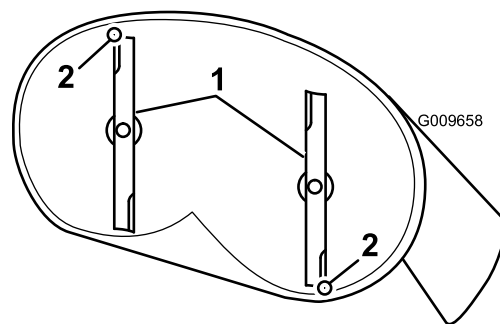
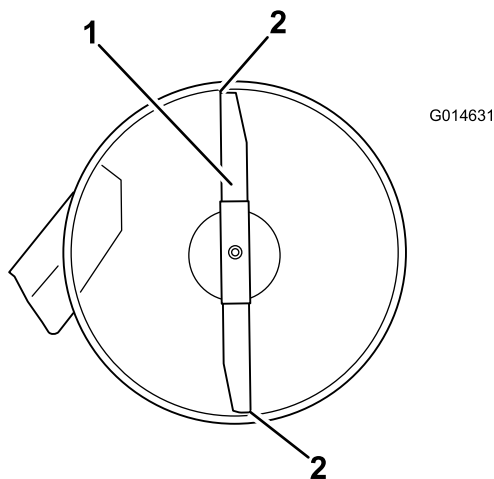
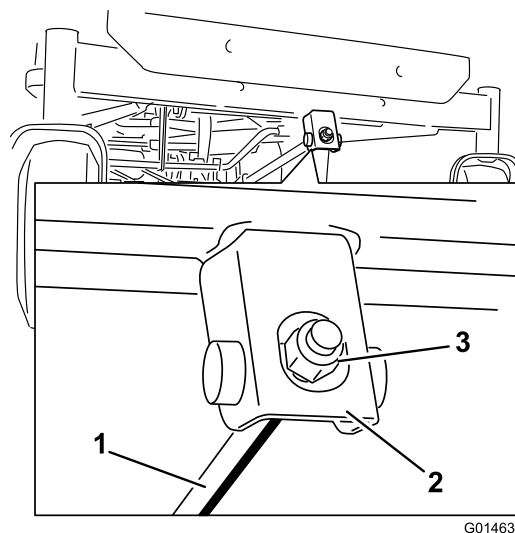

Figure 64
Figure 63
Figure 65
4. Carefully rotate the blades so they are facing front to rear (Figure 63 and Figure 64).
9. After adjustment, check the front-to-rear slope again, continue adjusting the nut until the front blade tip is 1.6 to 7.9 mm (1/16 to 5/16 inch) lower than the rear blade tip (Figure 64 and Figure 65).